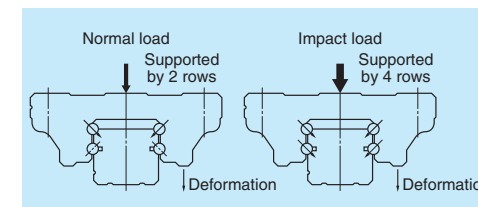

Fig. 5 Shock-resistance
(1) High precision and quality
(2) High reliability and durability
(3) Abundant types for any purpose
(4) Development of interchangeable parts for short delivery time
(5) Patented static load carrying capacity (impact resistance)
- When a super-high load (impact) is applied, our Gothic arch groove spreads the load to surfaces which usually do not come into contact in ball-type NSK linear guides. This increases impact load resistance (Fig. 5).
(6) Ultra high load capacity lineup